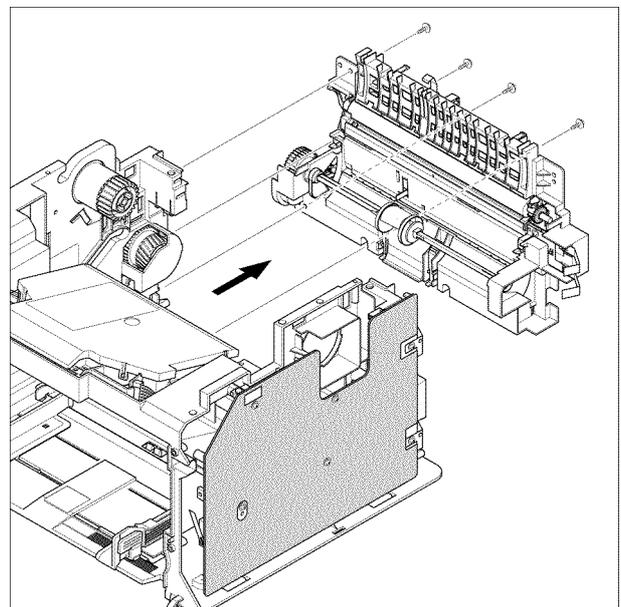

Figure 1
2. Remove 4 screws, then the paper path assembly, Figure 1.